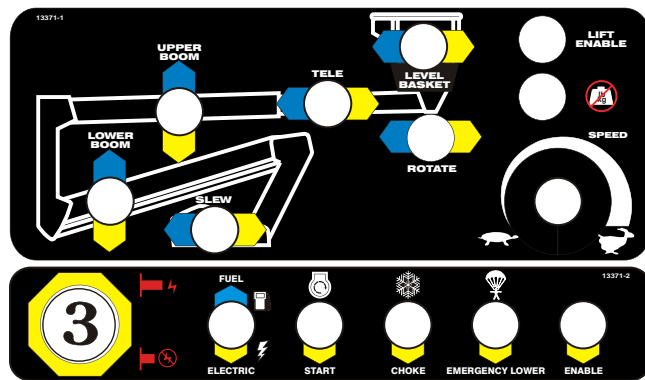

Figure 9.2 - Platform Control Box
3. Set the **Emergency Stop** switch ③ to ON (see Figure 9.2).